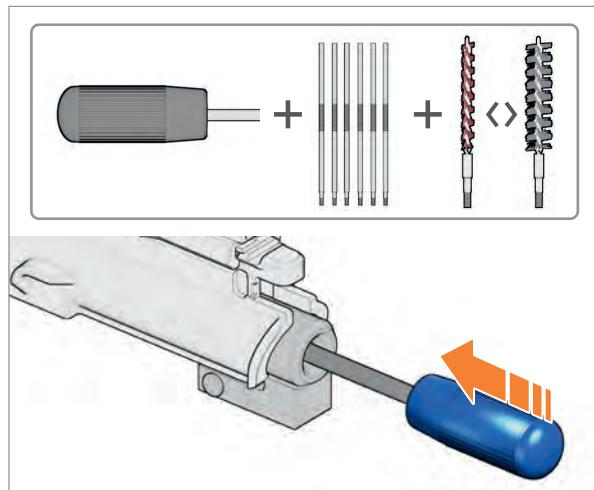

Fig. 105: Insert handle rod
4. Screw together handle rod, extension rods and oil brush / barrel cleaning brush (Fig. 105).
5. Insert the handle rod into the cleaning rod guide from the rear (Fig. 105).